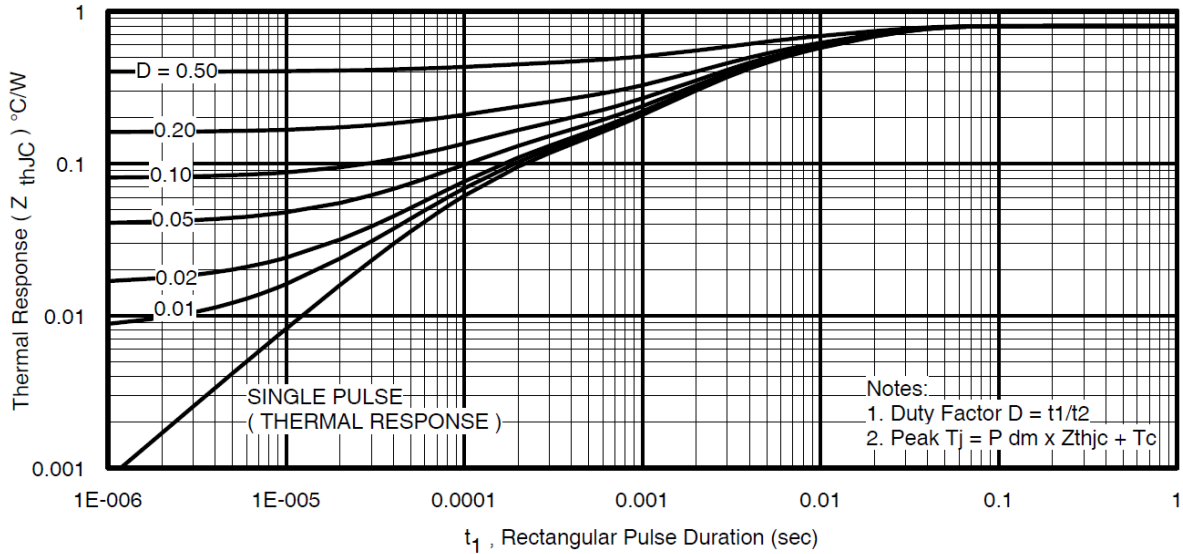

Fig 14. Maximum Effective Transient Thermal Impedance, Junction-to-Case
7. ΔT = Allowable rise in junction temperature, not to exceed T_{jmax} (assumed as 25°C in Figure 14, 16).